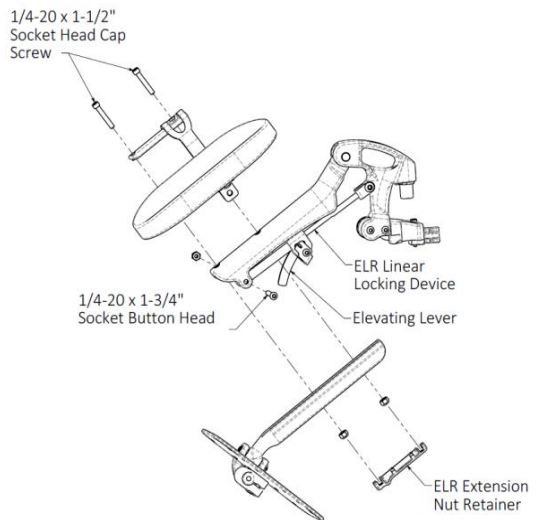

Figure 12.5: Elevating Legrest Footrest Height Adjustment
1. Loosen and remove the 1/4-20 x 1-3/4" Socket Button Head which holds the ELR's linear locking device, shown in Figure 12.5